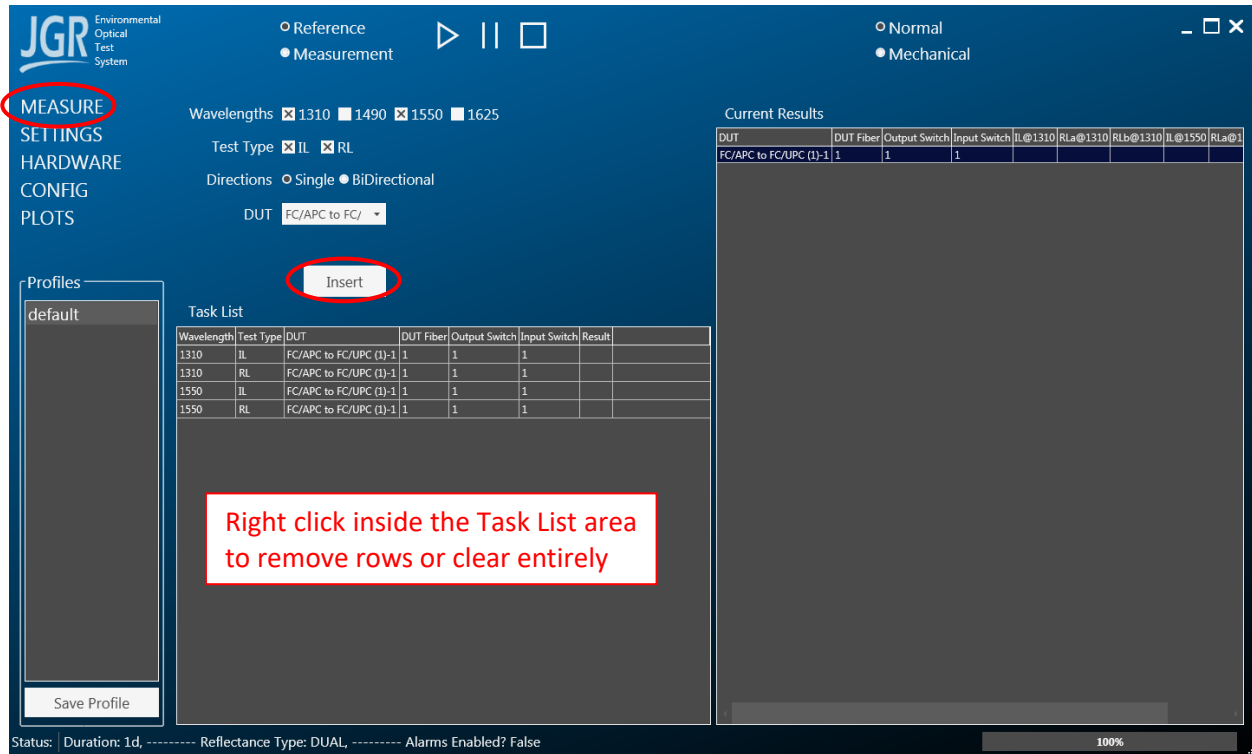

Figure 35: Create a test sequence
- Click on the *MEASURE* tab and select test parameters then click *Insert* (Figure 35).